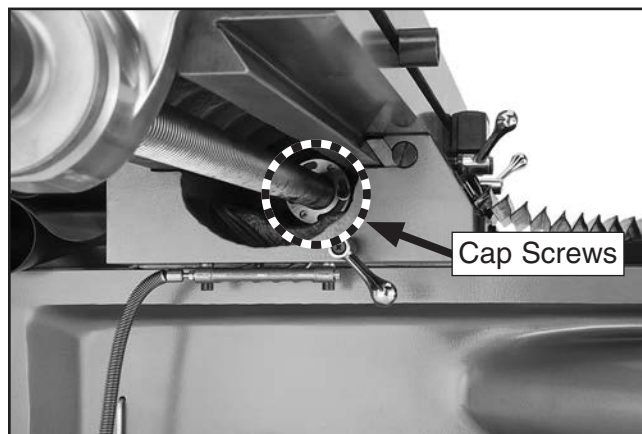

Figure 65. X-axis leadscrew nut cap screws (viewed from underneath left side of table).
2. Loosen the two cap screws on the X-axis leadscrew nut accessed from underneath the left side of the table (see **Figure 65**).